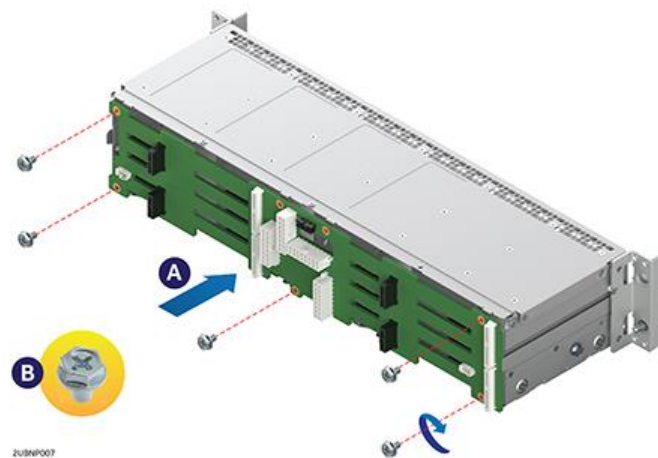

Figure 52. Installing the 4 x 3.5" backplane board to the drive cage
1. Attach the backplane board to the drive cage (A) and fix the backplane board with the screws (B) as pictured in Figure 52.